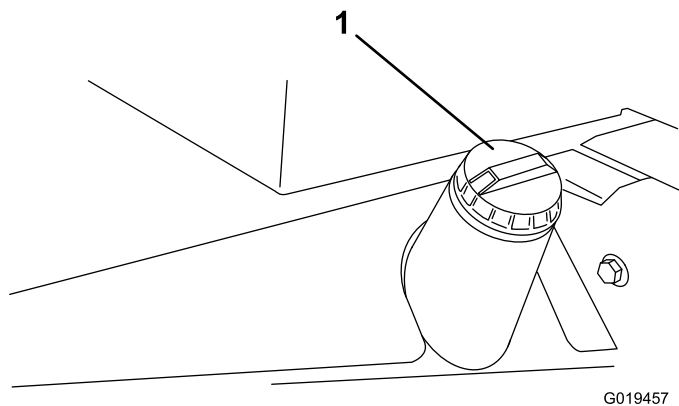

Figure 33
3. Remove cap from the fuel tank (Figure 33).